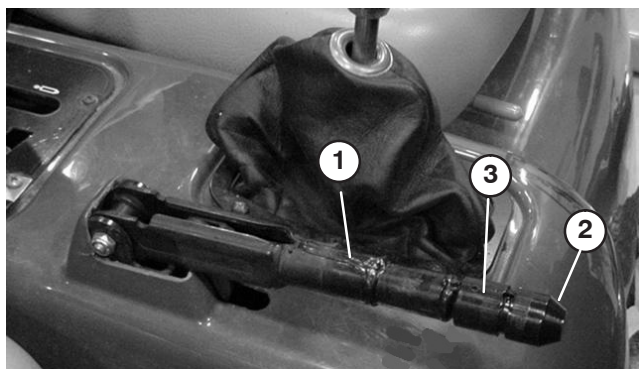

Figure 66
2. Loosen set screw securing knob to parking brake lever (Fig. 66).